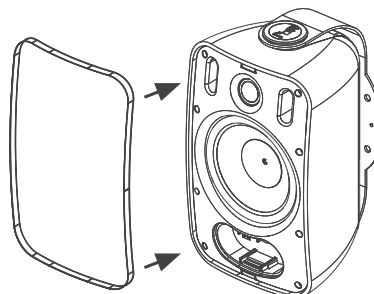

FIGURE 17:
11. Fit the grilles onto the speakers (see figure 17).